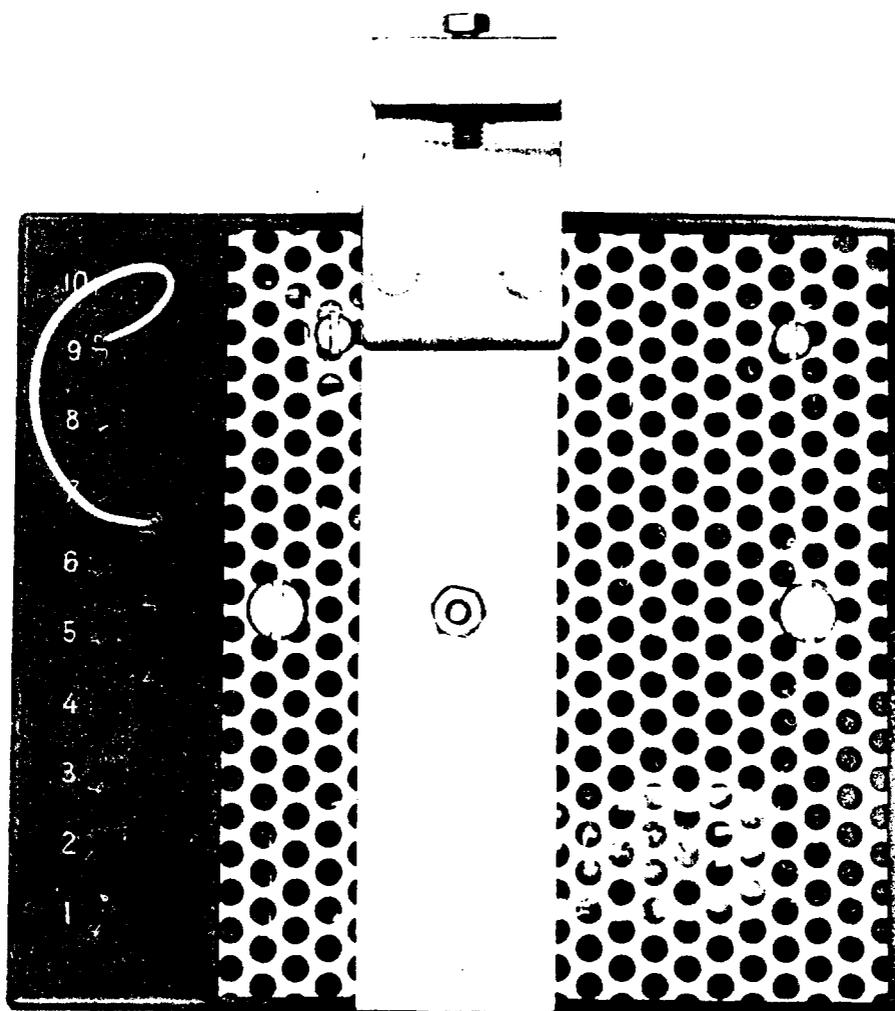

Figure 3. Use of PBX Jumper Straps (Model 104)
6.01 When used in a dial PBX, strapping is required when the dial PBX is trunked to a central office which is equipped for TouchTone[®]. A strapping field to accommodate this requirement is located on the back of the Converter. (See Figure 3)
7.02 In most Strowger installations, the shelf iron on which the Converter is to be located is positioned such that the Converter can be mounted directly in the configuration as received from the factory. However, in some vintages of equipment, the angle iron is located toward the lower portion of the switch, and therefore, requires repositioning of the Converter mounting bracket. This is easily accomplished by removing the ¼" nut at the rear of the Converter, rotating the bracket 180° and retightening the nut. (Figure 3)